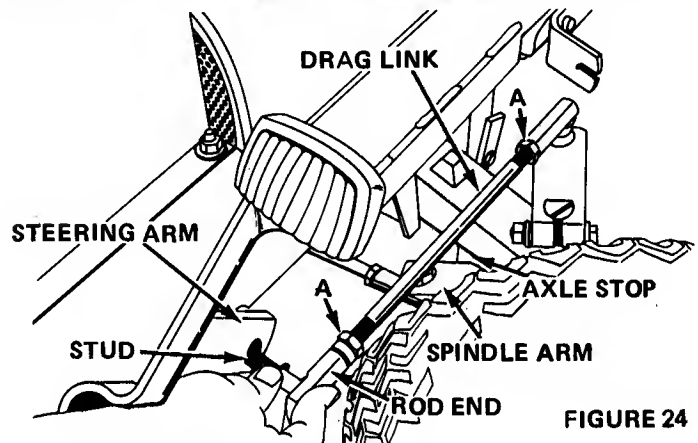

FIGURE 24
When making a full right hand turn, the spindle arm should contact the axle stop as shown in Figure 24. When making a full left hand turn, the left spindle arm should contact the left axle stop. Proceed as follows to adjust the steering stops after checking toe-in.
1. Rotate front wheels to the right until right spindle arm contacts the axle stop, Figure 24.
2. Remove drag link rod end from steering arm, Figure 24, and loosen jam nuts A.
3. Rotate drag link as required while preventing the loose rod end from turning until the stud is approximately  $1/2$  hole to the rear of hole in steering arm, Figure 24. Be sure axle stop contacts steering arm.